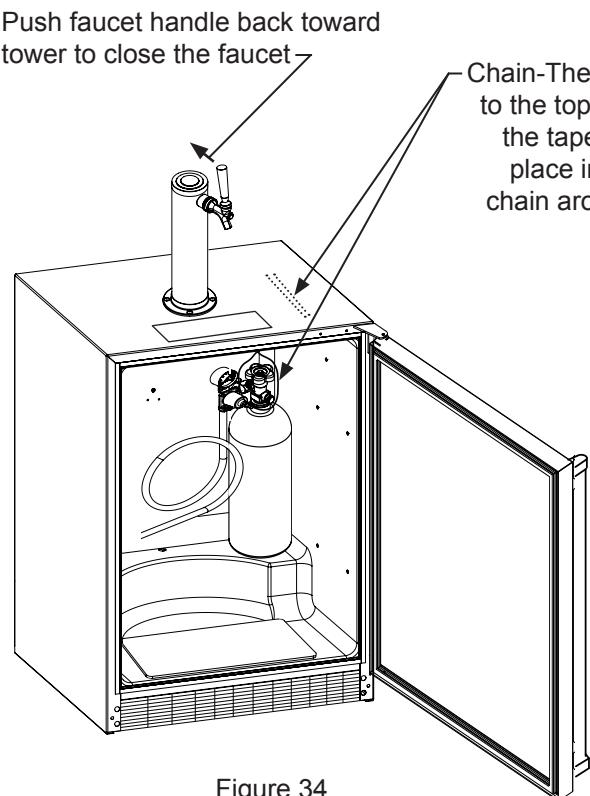

Figure 34
8. Locate the CO₂ tank in the corner of the refrigerator as shown in Figure 34 and secure with the chain. Close the faucet handle on the tower.
2. Be sure the faucet handle is closed on the tower (see Figure 34).